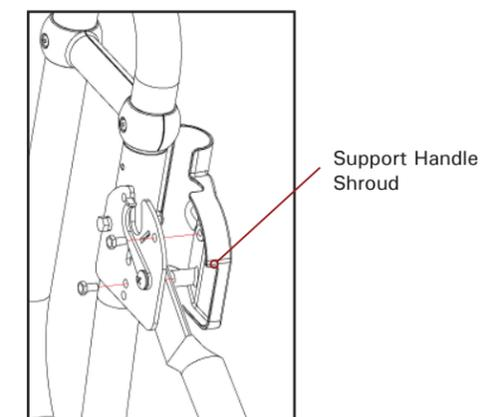

Figure 21
- Select the corresponding Shroud for the left or right side on the A-Frame Base by aligning each with the shape of the hinge plate. Secure with two hex bolts (H1-1202) for each side using the wrenches provided. (Figure 21)